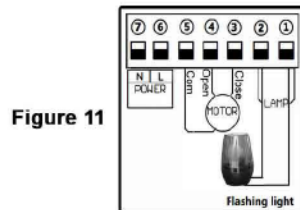

Figure 11
7.3. Connect to flashing light . (Fig 11)